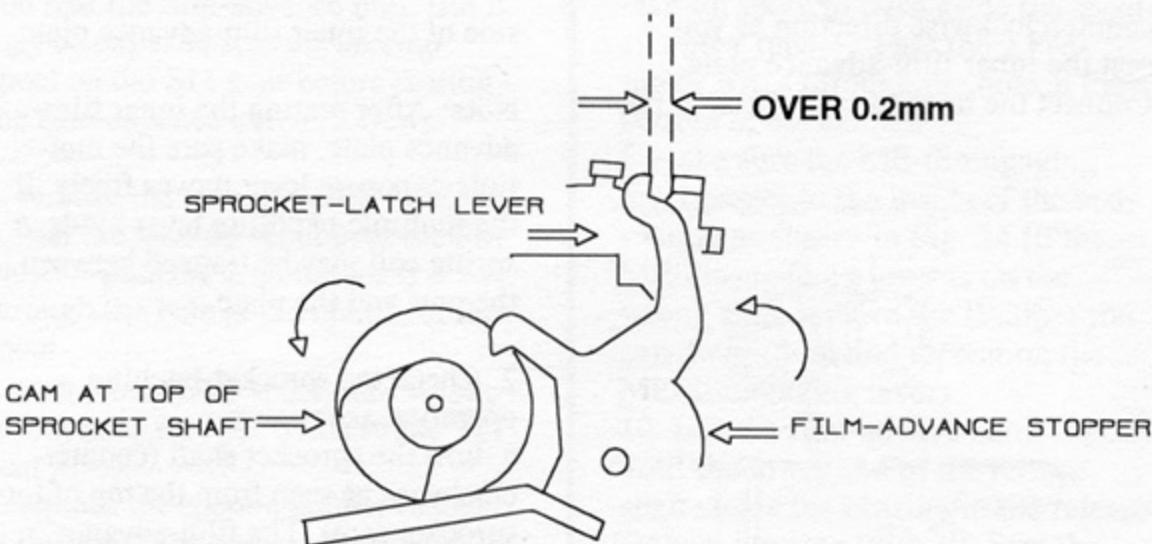

FIG. 31 TOP OF LOWER FILM-ADVANCE BASE PLATE DURING FILM ADVANCE
1. Turn the sprocket shaft, Fig. 32, to rotate the sprocket cam, Fig. 31, in a counterclockwise direction.
2. The sprocket cam pushes the film-advance stopper in a counterclockwise direction. When the sprocket cam moves the film-advance stopper the maximum amount, Fig. 31, check the overtravel (space gap between the latching end of the film-advance stopper and the stopper-latch lever). The space gap should be